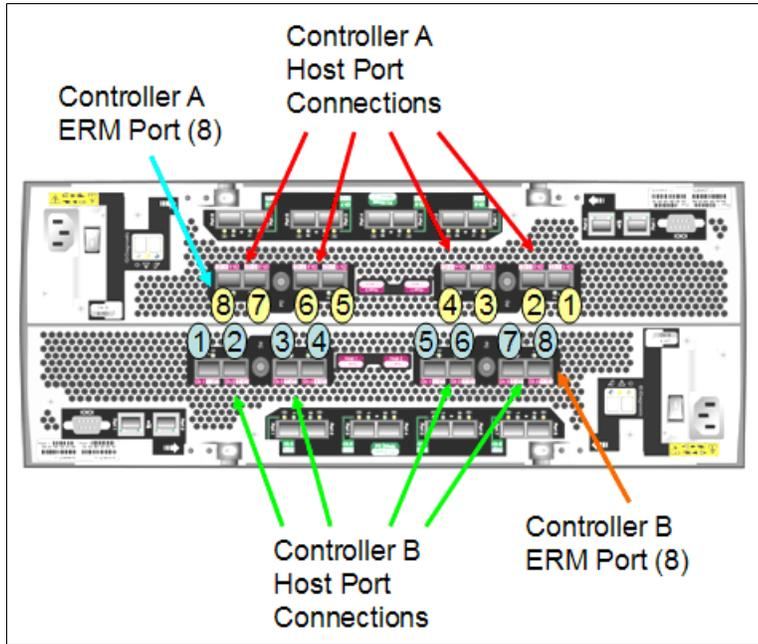
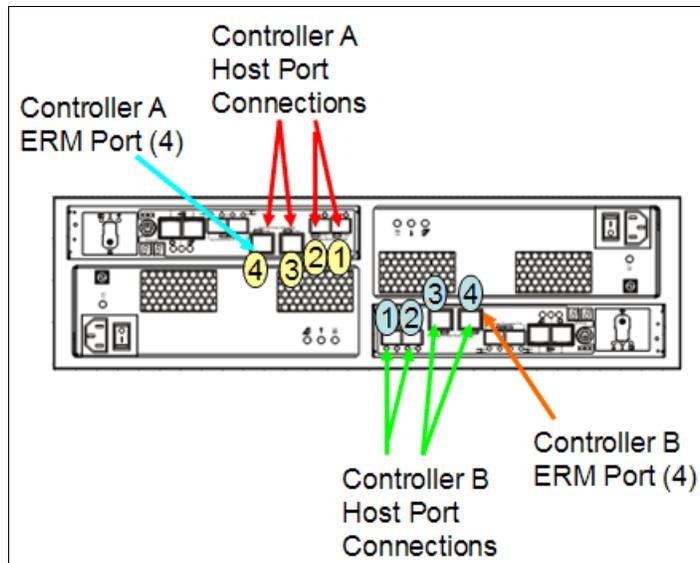
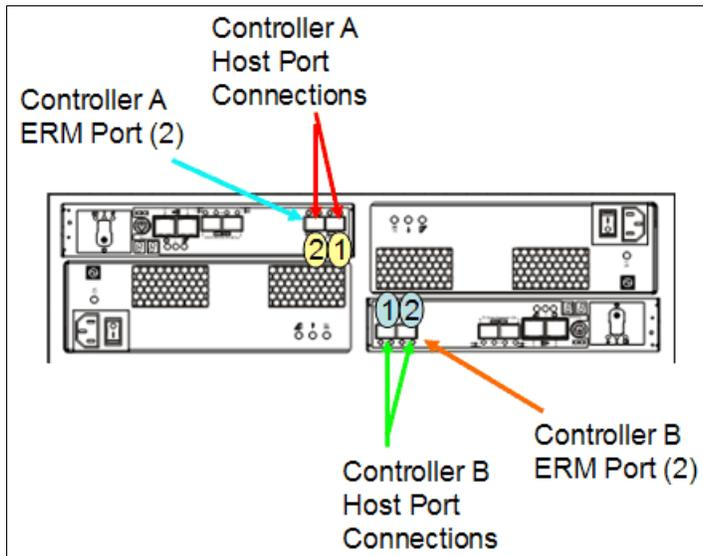
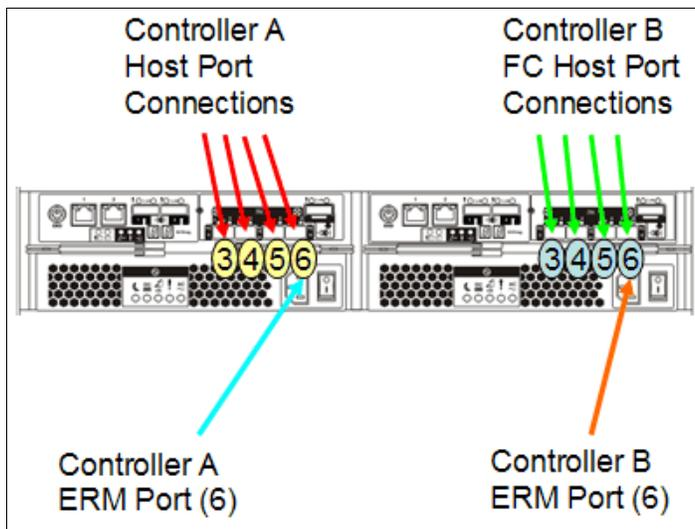

Figure 4-9 Host-side ports for host and ERM connections on DS5100 and DS5300
Figure 4-10 Host-side ports for host and ERM connections on DS5020 with expanded ports
Figure 4-11 Host-side ports for host and ERM connections on DS5020 base model
Figure 4-12 Host-side ports for host and ERM connections on DS3500
- ▶ On the DS5100 and DS5300 the host port on controllers A and B assigned to ERM is port 8. With the DS5020 and expanded FC host ports, the host port used for ERM is port 4. And with DS5020 base configuration host port 2 on controllers A and B would be used. See Figure 4-9, Figure 4-10, Figure 4-11 on page 121, Figure 4-12 on page 121 for the host-port locations.
- ▶ On the DS5020 with four 4 Gbps FC host ports, use host ports A2 and B2; see Figure 4-11 for the host-side port locations.
- ▶ With the DS3500 you must purchase the FC option to include the FC host interface daughter cards with the controllers. The port assignments for the FC ports are port 3 through 6 (port 1 and port 2 are the built-in SAS ports on the controllers). For ERM you must dedicate FC ports A6 and B6 to the mirroring. on See Figure 4-12 for the port locations.